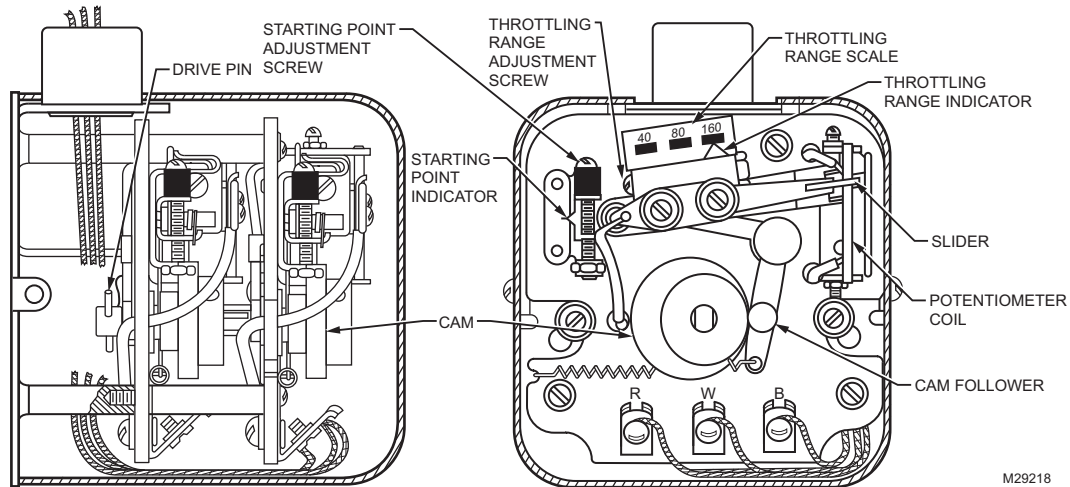

Fig. 5. Internal view of a two potentiometer Q181.
2. Make certain that the cam follower is on the low side of the cam, as shown in Fig. 5. Fit the drive pin coupling over the drive pin and put the Q181A in place on the master motor. The drive pin shaft should engage the shaft coupling.
The point in the rotation of the master motor at which the auxiliary motor starts its travel in one direction or completes its travel on the return stroke. The starting point is determined by the starting point adjustment screw (see Fig. 5) and is adjustable between 0 and 120 degrees.
The rotation on the master motor required to drive the Q181A potentiometer through its full travel, which in turn drives the auxiliary motor through its full travel. The throttling range is determined by the throttling range adjustment screw (see Fig. 5) and is adjustable from 40 to 160 degrees of the master motor rotation.
- a. Turn the throttling range adjustment screw (Fig. 5) slightly clockwise . The indicator should move slightly to the left on the scale. This shortens the throttling range so that the auxiliary motor will open fully.
1. Turn the throttling range adjustment screw (Fig. 5) until the indicator is positioned properly on the scale.